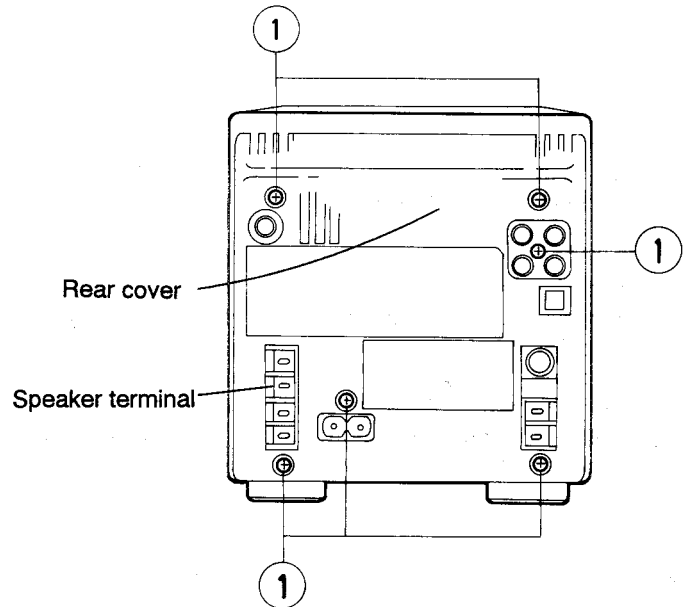

Fig. 5-1
■ Removing the rear cover and side panel (See Figs. 5-1~5-4)
- Remove the six screws ① retaining the rear cover from behind the body.
- From the bottom face of the body, remove the four screws ② retaining the rear cover.
- After passing the lock pawls at the speaker terminals through the position in Fig. 5-1, remove the rear cover.
- Remove the two screws ③ retaining both of the right and left side panels.